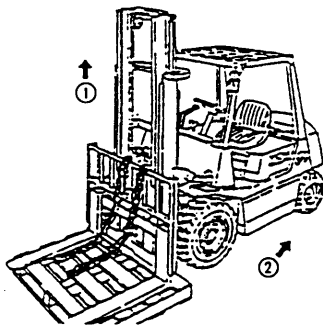
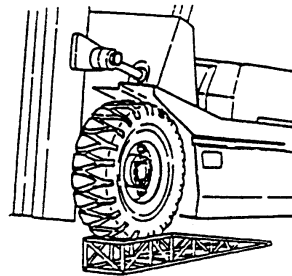

Fig 7.5
Fig 7.6
- (1) Place a pallet on the forks and let the truck parking on the horizontal ground.
- (2) Make the forks and the pallet down to the ground.
- (3) Disassemble the end nipple of the upper chain and take the chain down from the sheave.
- (4) Lift the inner mast (See Fig 7.5①).
- (5) Make the truck back-up if the lift bracket is fully separated from the outer mast.
(See Fig. 7.5②)
- (6) Replace the main rollers
7.2.4 Replace rollers (Fig7.6)